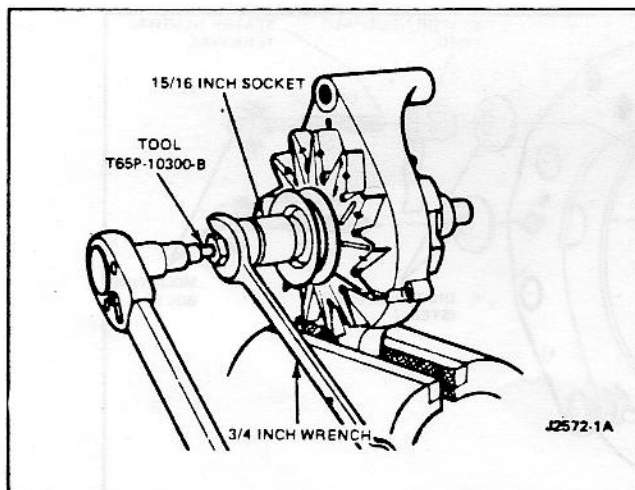

Fig. 15 - Pulley Removal
10. Clamp the front housing in a vise with protective jaws (Fig. 15).
11. Remove the drive pulley retaining nut from the rotor shaft using Removal/Installation Tool, T65P-10300-B or equivalent (Fig. 15).
6. Install the fan spacer, fan, drive pulley, lockwasher and nut on the rotor shaft. Tighten the nut to 82-135 Nm (60-100 ft-lbs) using removal/installation tool, T65P-10300-B or equivalent (Fig. 15).